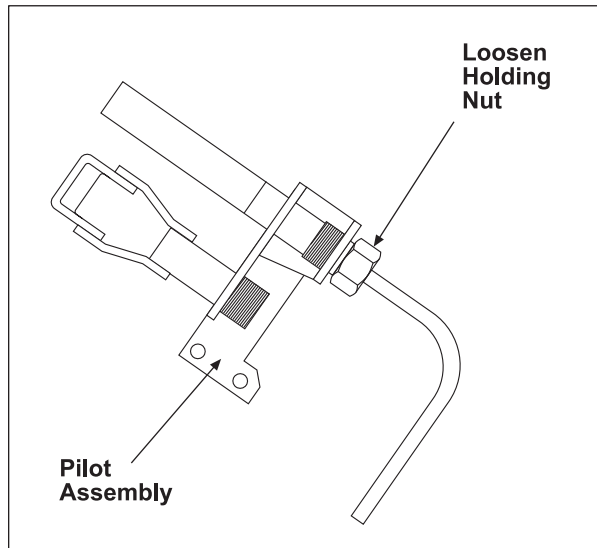

Figure 13
3. Remove thermopile from pilot bracket by loosening the holding nut (Figure 13).